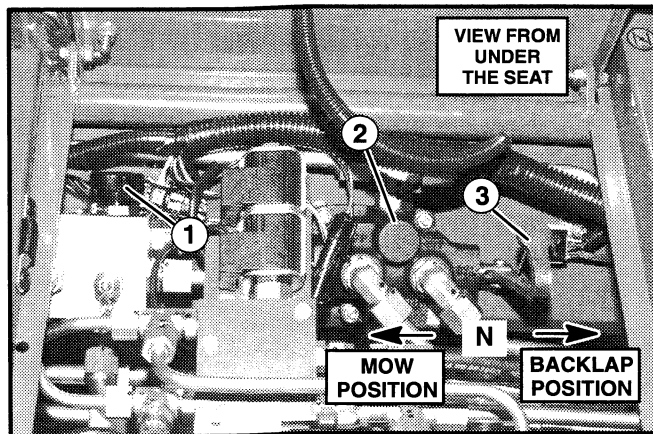

Figure 36
1. Open the restriction valve on the reel valve by turning the knob counterclockwise as far as it will go (See Fig. 36).
2. Set the reel control lever to the right for the backlap position (See Fig. 36).